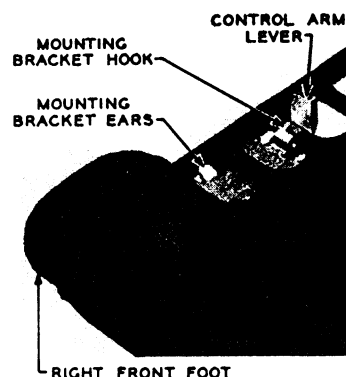

Fig. 25 — Mounting Bracket
- Ringer volume is varied by the control arm lever which protrudes through the ringer port in the base of set. The left ringer gong is mounted on gong end of control arm, and may be moved to three positions (low, medium, and high) by operation of volume-control lever (see Fig. 25).